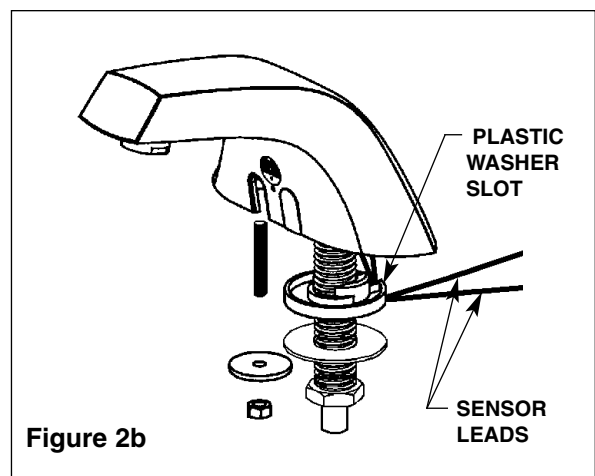

Figure 2b
8. Install the white plastic washer onto the shank from beneath the countertop, followed by the 7/8" I.D. washer and nut. The sensor lead wires should align with the slot in the washer (see Figure 2b).
9. Install the large slotted washers and 1/4"-20 nuts onto the studs (see Figure 2b). Secure the faucet to the countertop by tightening the shank nut. Tighten the remaining two stud nuts.